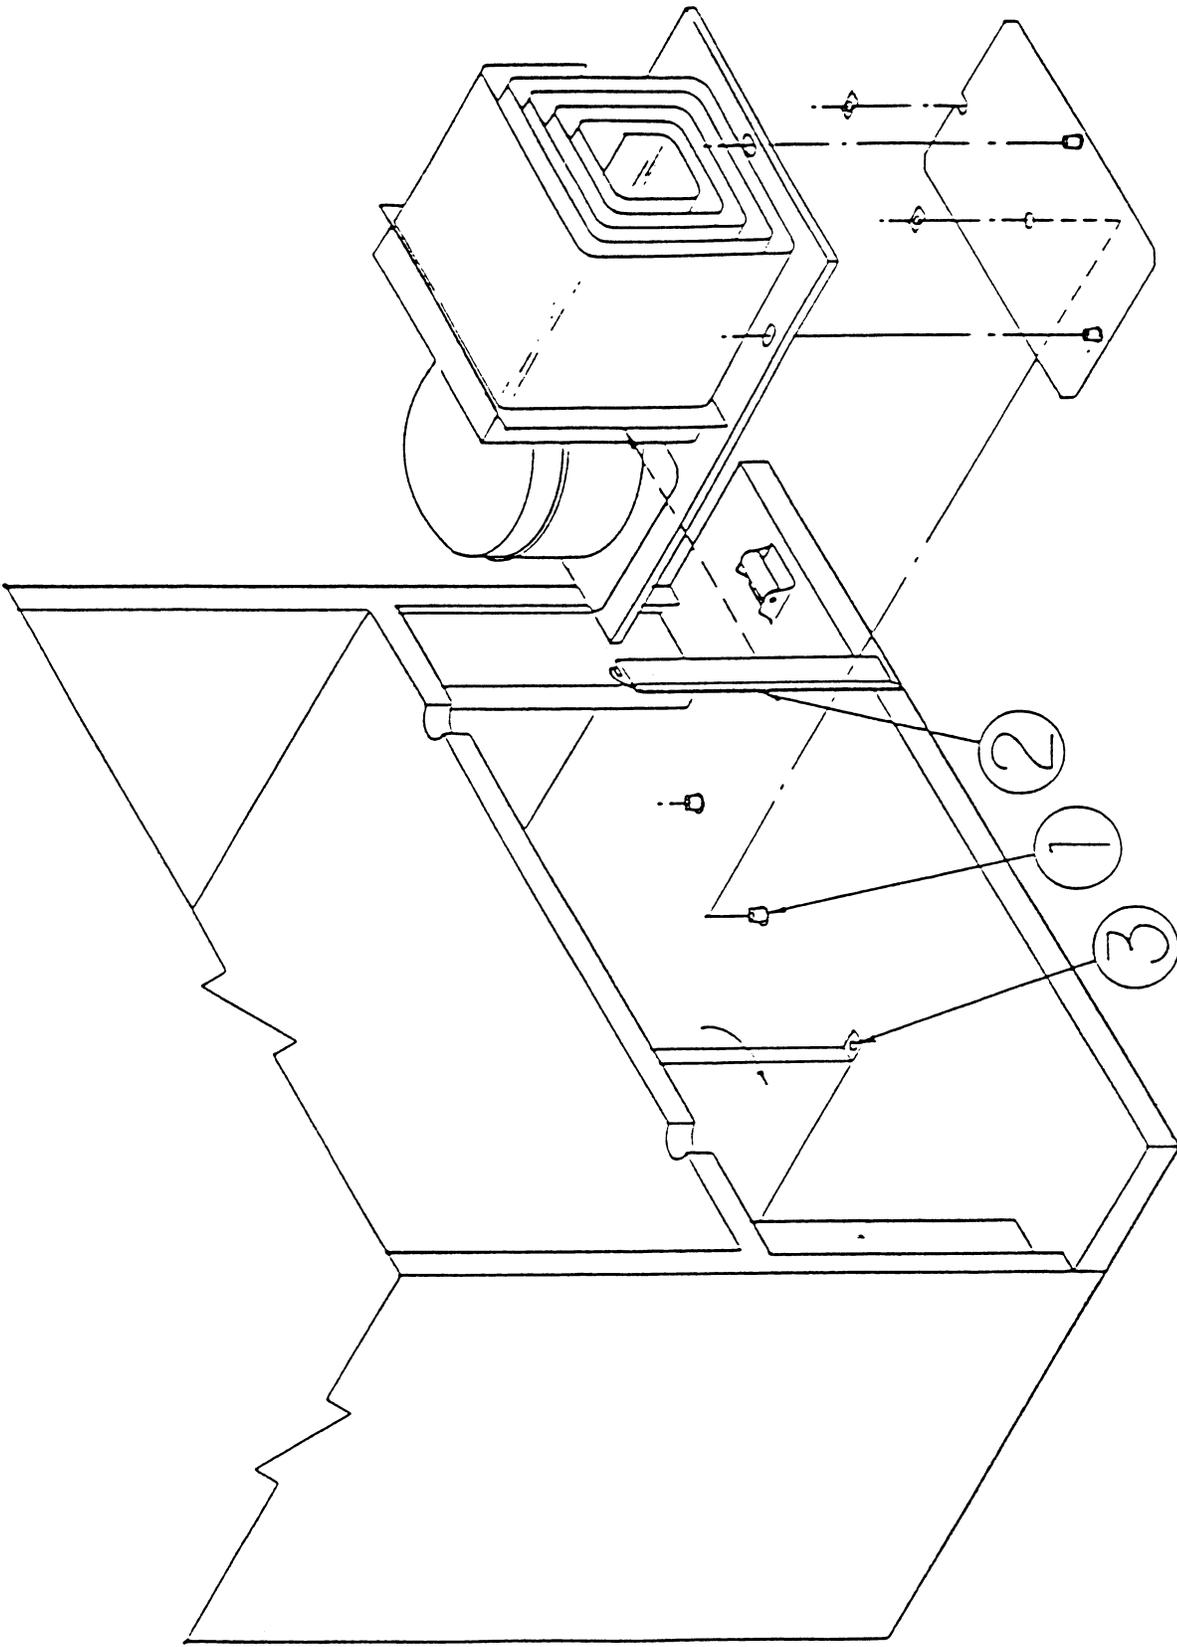

Figure 5
- b. Push a stud receiver clip (900,902,19x.x1) on each of the projection weld nuts. (See item 1, figure 5, page 8.)
5. If vender was built in Ranson with metal baffles, push the fan shroud adapter seal (901,806,91x.x1) on to the left edge of the condenser fan shroud. (See item 2, figure 5, page 8.)
7. On Ranson built venders with metal baffles, remove the front screw holding the left hand baffle in place. (See item 3, figure 5, page 8.)